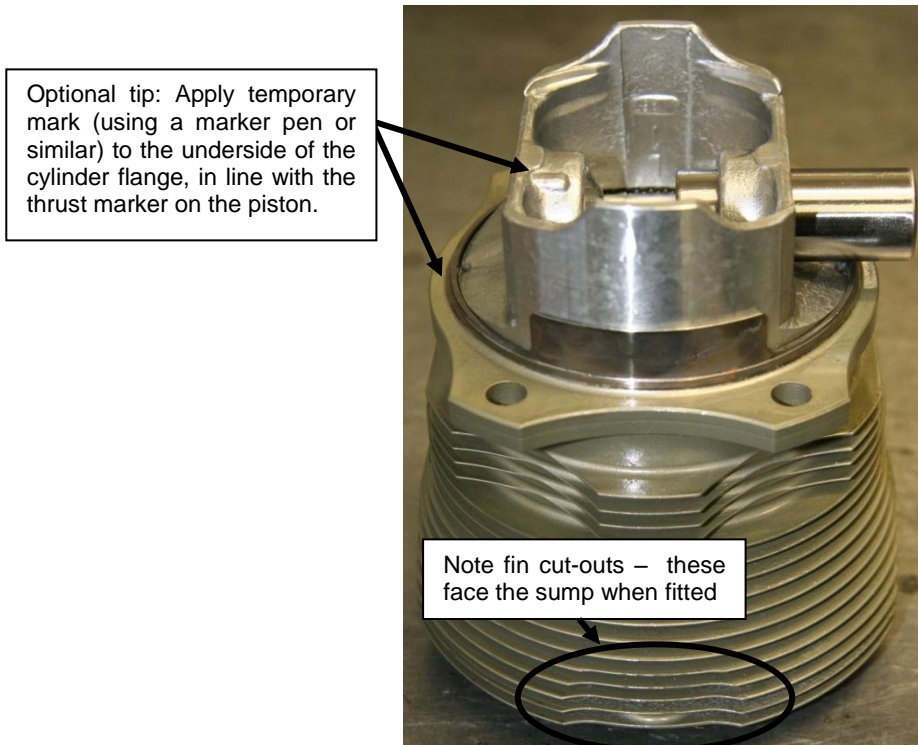

Figure 136 – Piston / Ring / Cylinder Assembly
- Start the gudgeon pin into the piston as shown in Figure 136 (left).